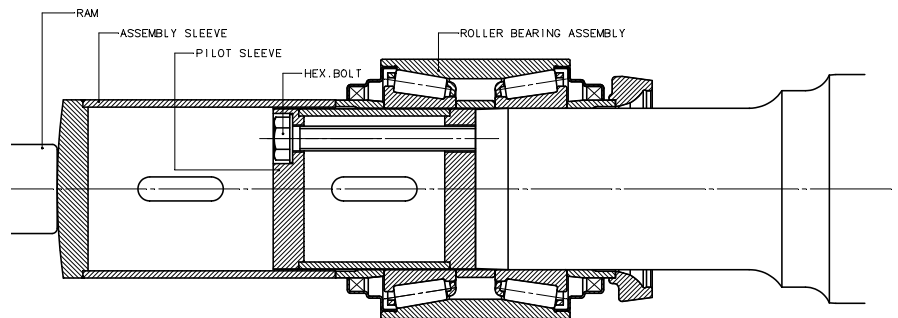

Fig. 5. Separate sleeve method of applying roller bearings to an axle.
The amount of press fit of the bearing on the axle is predetermined by the dimensional tolerances of the axle and bearing mounting parts. Neither the bearings nor the axle need to be selected for fit for any given class. You must use a pilot sleeve to keep the cone spacer in alignment with the bores of the cones and to guide the bearing assembly on the axle. You may fasten the pilot sleeve to the end of the axle or guide it with the lathe center hole in the end of the axle (fig. 5 on page 6).
1. Use an assembly sleeve, which contacts the seal wear ring outer face on an AP bearing or the cone outer face on an AP-2 bearing and telescopes over the pilot sleeve, to press the bearing on the axle (fig. 5 on page 6).